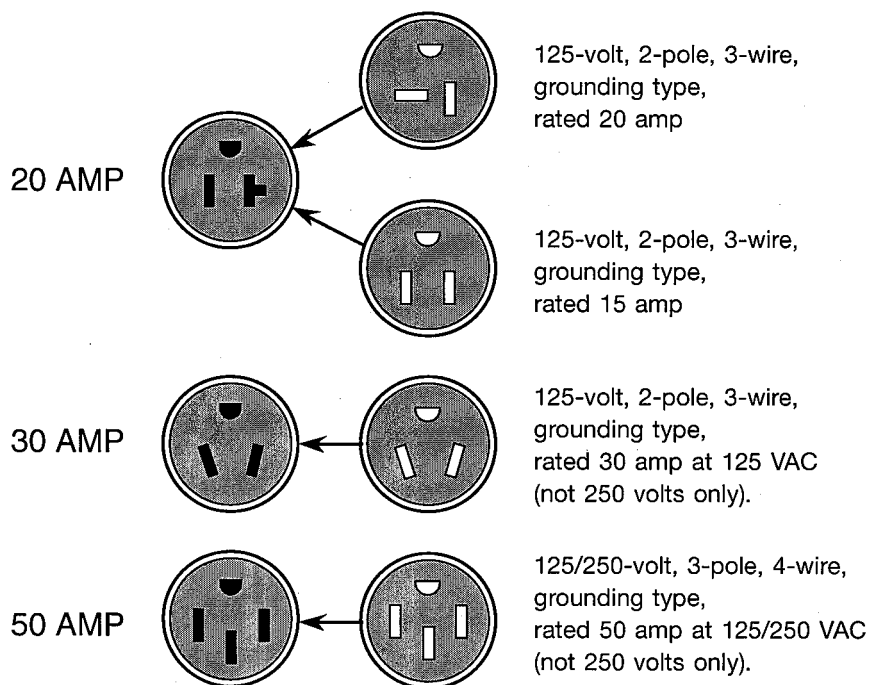

Figure 3.3
Do NOT connect the shore cord to a 250 VAC ONLY power outlet. Figure 3.3 depicts 20- to 50-amp receptacles and 15- to 50-amp RV plug caps.
- Plug the shore cord into the proper shore service only. Use appropriate adapters where necessary (Figure 3.3).